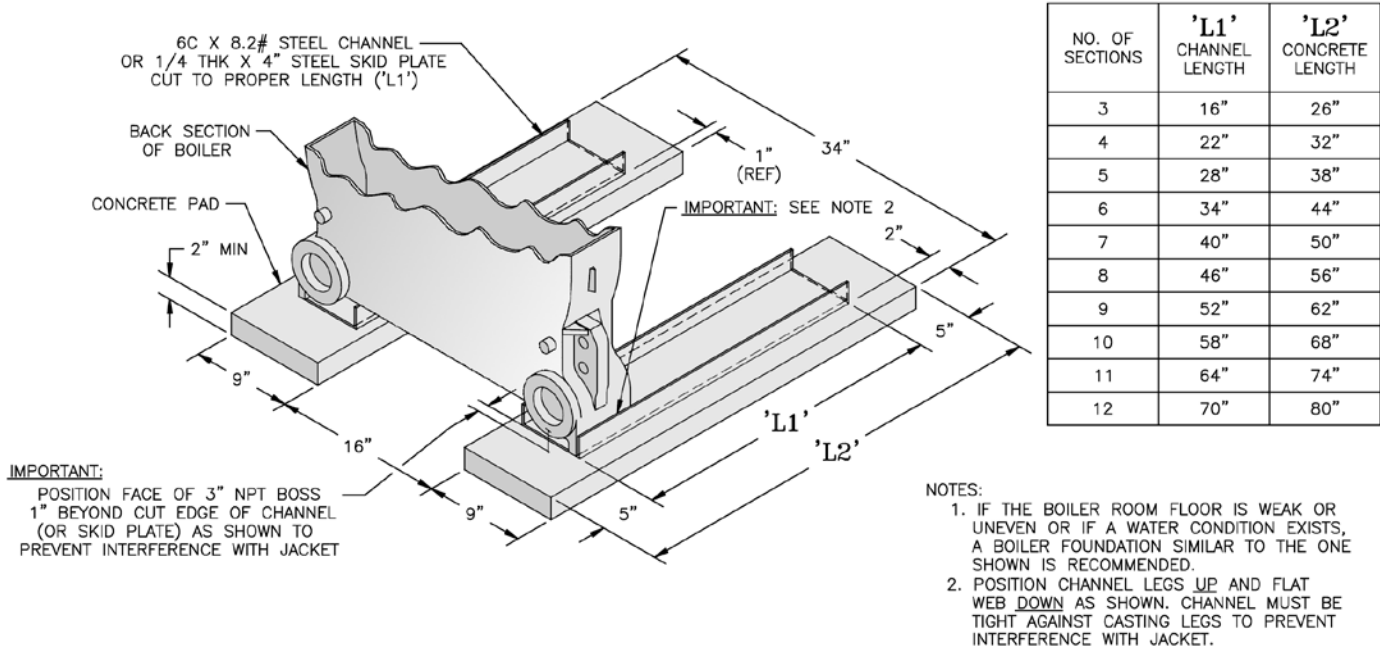

Figure 2: Boiler Foundation
Floor construction should have adequate load bearing characteristics to bear the weight of the boiler filled with water (see Table 1). A boiler foundation similar to the one shown in Figure 2 is recommended if the boiler room floor is weak or uneven or if a water condition exists.
3. PROVIDE ADEQUATE FOUNDATION for the unit. Refer to Figure 2.